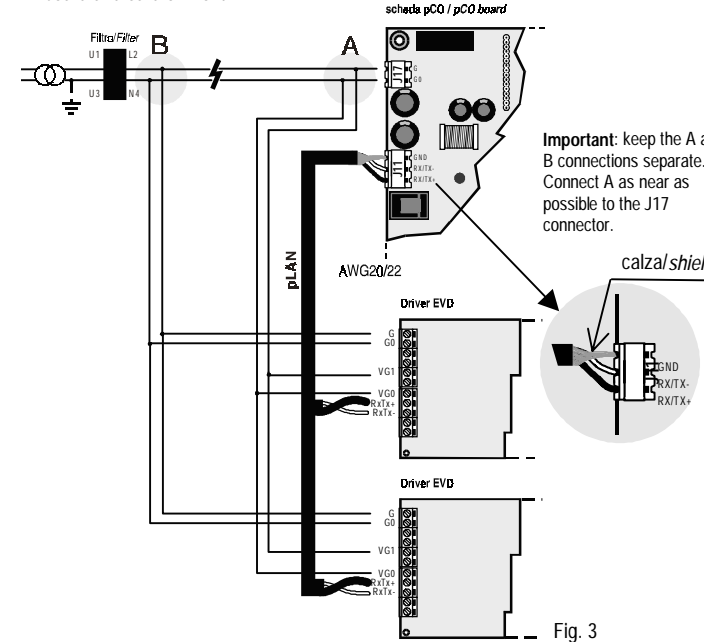
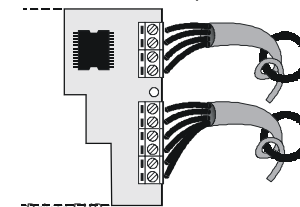
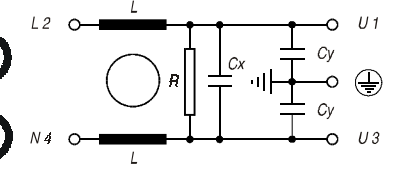

Fig. 3
Fig. 4
Fig. 5
**WARNING:** to guarantee the respect of the regulations on electromagnetic compatibility it is advisable to keep the valve connecting cable as short as possible and separated from the other cables. Use two ferrite (cod.0907858AXX) anchor rings (max. impedance of at least 400Ω between 10 and 500MHz), one on the valve controlling cable and another on one of the adjacent cables (Fig. 4). For each plant it is advisable to use a filter (cod. 0907930AXX) (Fig. 3), as indicated in Fig. 5. The observation of the regulations must be checked on the whole plant.